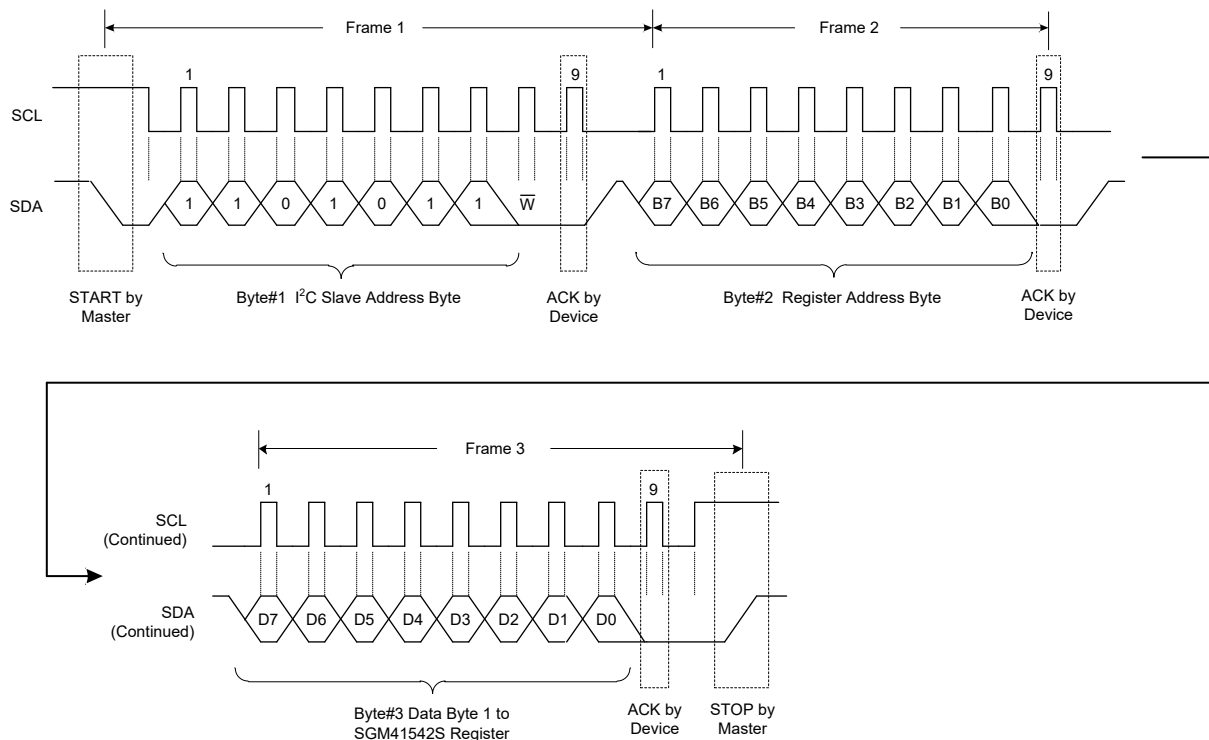

Figure 16. A Single Write Transaction
**WRITE:** If the master wants to write in the register, the third byte can be written directly as shown in Figure 16 for a single write data transfer. After receiving the ACK, master may issue